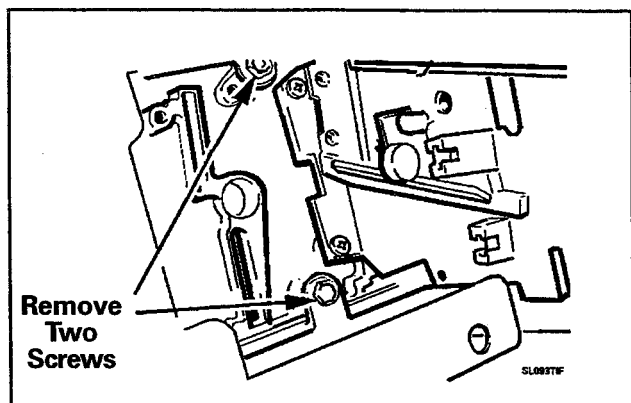

Figure 2-13
4. Remove two screws securing coin drop to mounting plate (*Figure 2-13*).